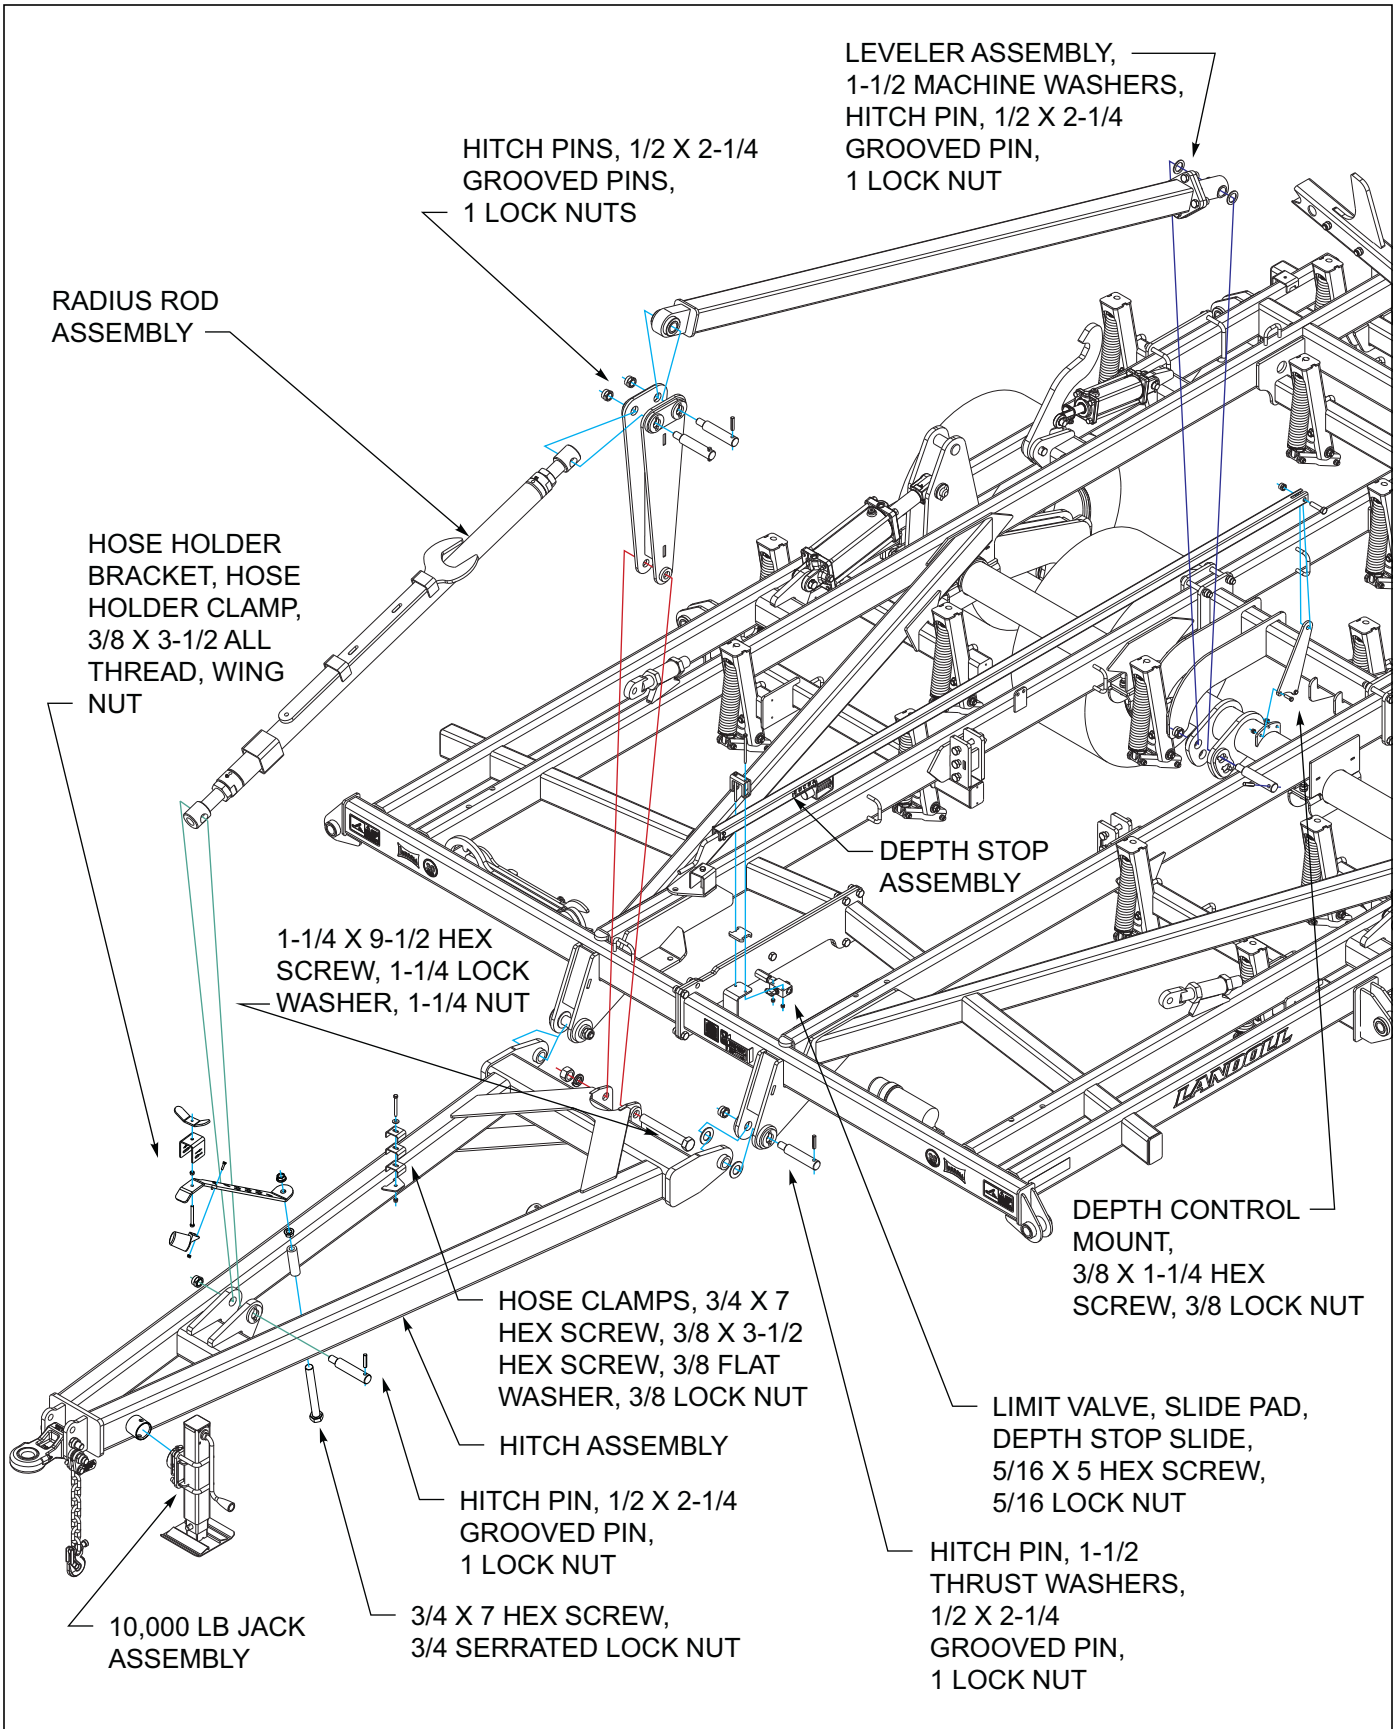

Figure 3-4: Hitch & Leveler Assembly
11. Attach the rear of the hitch to the front of the center frame using hitch pins, 1/8 hex nuts, and 1/2 x 2-1/4 solid pins. The pins will be installed in the frames. (See Figure 3-4.)